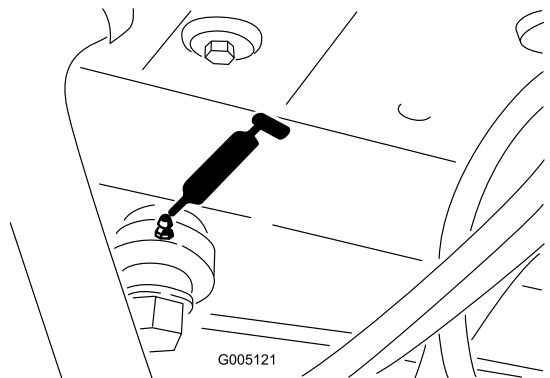

Figure 39
- Steering cylinder end (Figure 39)